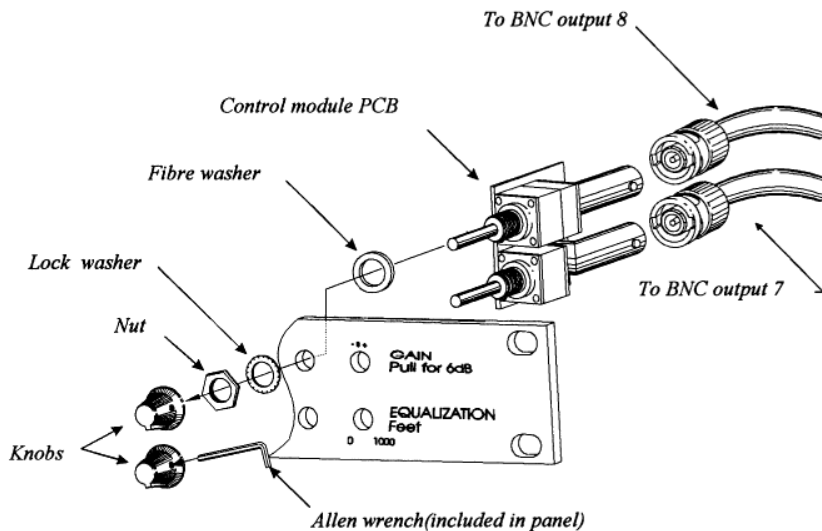

Figure 5. Installing the Control Module
5. Measure the resistance of the Gain potentiometer using a digital ohmmeter. One lead should touch the center gold receptacle; the other, the outer shielding. See Figure 5.
6. Rotate the knob fully clockwise until the potentiometer reaches its turning limit. If the knob is in the proper position, it will be pointing just past the 1000 foot mark on the panel. If the knob indicates a distance of 1000 feet or less, gently turn the knob clockwise until it points to just past 1000 feet. The knob will slip turn on the potentiometer shaft. See Figure 5.